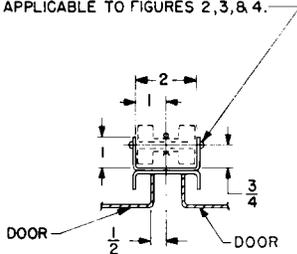

Figure 2
(1) $\frac{1}{4}$ DRILL IN EACH LEG OF INSIDE DOOR CHANNEL AT C OF VAULT HANDLE APPLICABLE TO FIGURES 2, 3, & 4.